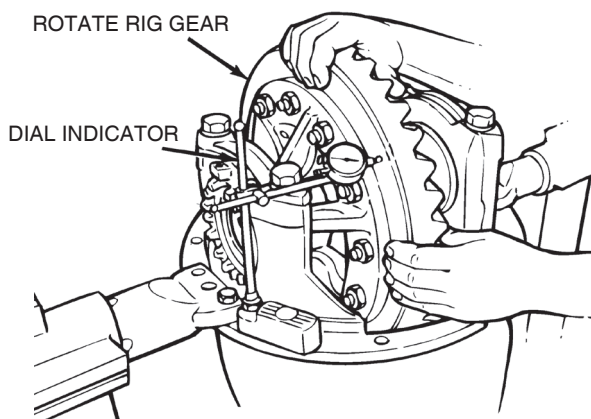

Figure 5.42
1. Attach a dial indicator in the differential case mounting flange. Figure 5.42.
2. Adjust the dial indicator so that the plunger or pointer is against the back surface of the ring gear. Figure 5.42. Set the dial indicator to ZERO.